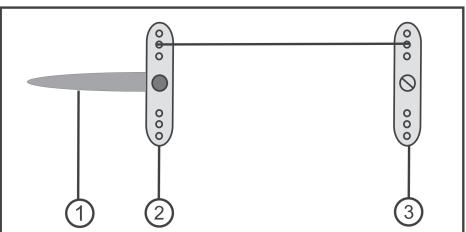
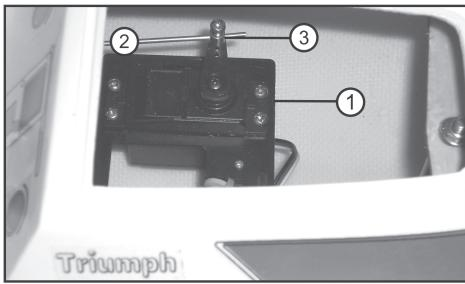

Figure 3a
Figure 3d
Figure 3a shows symbols for the rudder (1) and the rudder linkage lever (2), as well as the servo linkage lever (3).
Figure 3d shows the steering servo (1), linkage rod (2) and rod connection (3).
Align the rudder, rudder linkage lever and servo linkage lever (see figure 3d) as shown in figure 3a.
Shorten the linkage rods at the rod connection (figure 3d, item 3) so that the linkage is possible as shown in figure 3a.